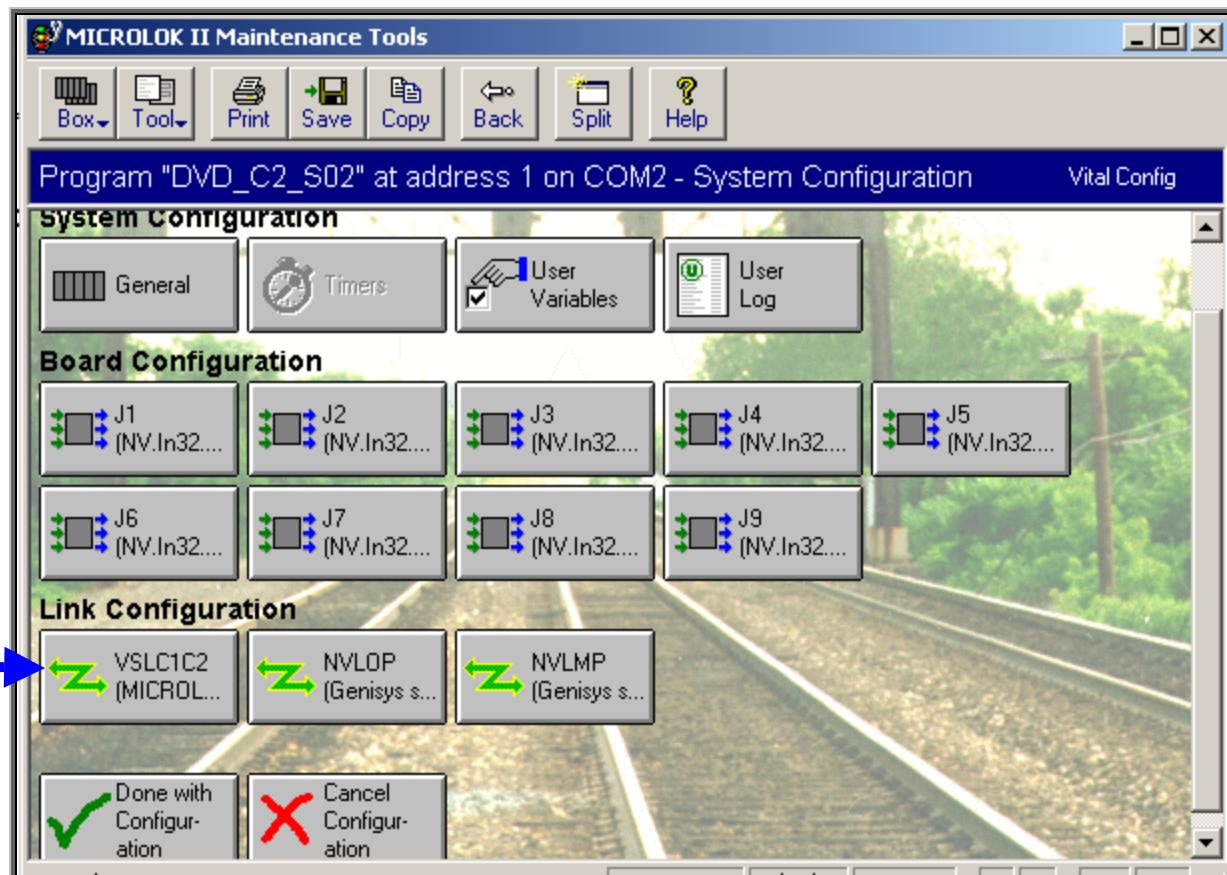

Figure-7.6.1
- ❖ First carryout the steps as per “7.3” section and then click on one of the Link Configuration selection button on the system configuration selection window (Refer Figure-7.6.1).